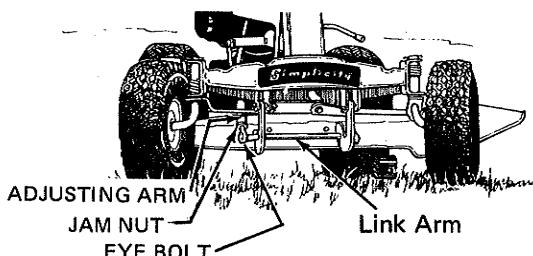

FIGURE 15
3. To raise or lower the front of mower, remove retaining ring securing eyebolt on link arm (Figure 15). Slide eyebolt from link arm, and loosen jam nut. Turn eyebolt in or out of adjusting arm as required. Slide eyebolt back on link arm and check blade height. Tighten jam nut when proper height is attained. Repeat the adjustment, keeping both adjusting arms equal in effective length until the front of the mower blade is 1/16 to 1/8 in. lower than the rear. When the height adjustment is complete replace the retaining ring.